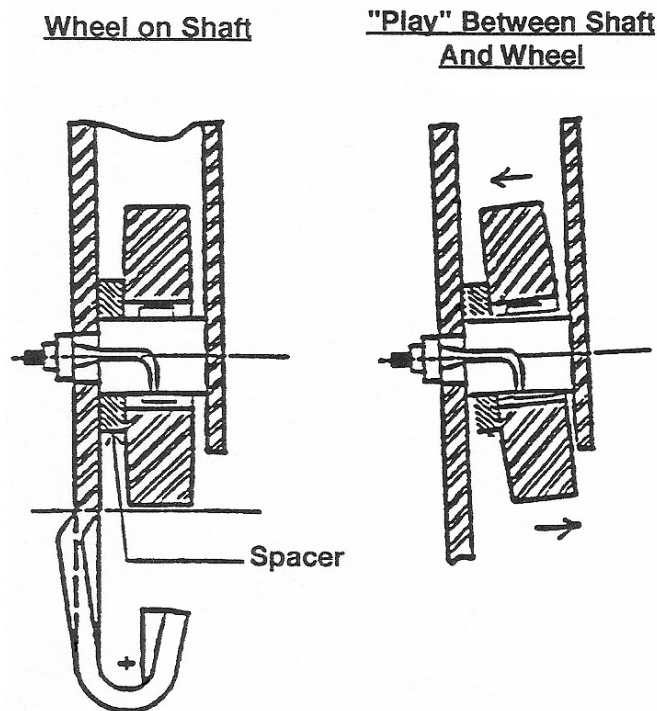

Figure 2
1. Check for "play" between the door roller and the shaft (see Figure 2). If "play" is found, replace the roller on the shaft and check it again. If play is still present, it is then necessary to also replace the shaft. The roller must spin freely on the shaft.
- A. New steel rollers have a built-in spacer machined on one side of the roller. This spacer is always installed on the side of the wheel toward the 'J' plate. (See Figure 2).